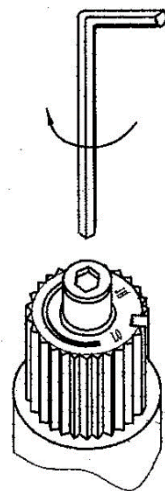

Figure 4
14. Using the hex key tighten (Without excess) the screw. See Figure 4.